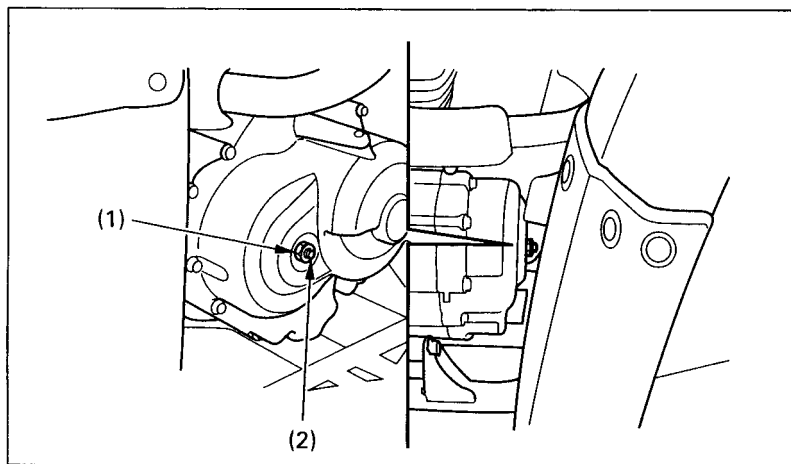

Fig. 4-15 (1) Lock nut
2. Loosen the lock nut (Fig. 4-15), and turn the clutch adjuster (2) counterclockwise until you feel slight resistance.